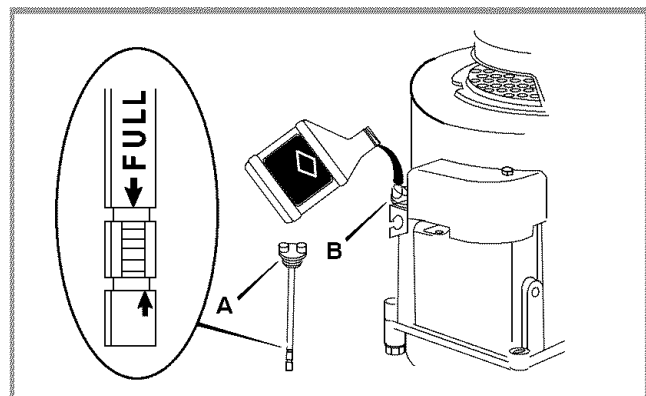

Figure 6: Oil Fill
- Make sure the engine is level. Remove the dipstick (A) from the engine oil fill (B).
- Make sure that the oil level is at the FULL mark shown on the dipstick (see Figure 6).
- Check oil level daily, or after every eight (8) hours.
- 6 Fill to the FULL mark shown on the dipstick (see Figure 6). Pour slowly. Do not overfill.